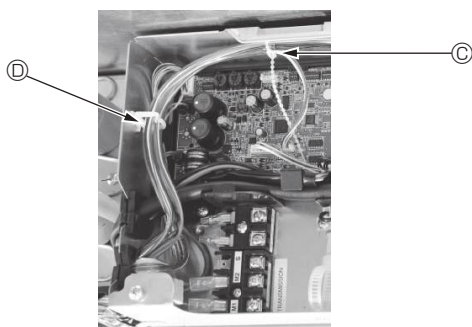

Fig. 5-15
- Place the excess portions of the i-see Sensor and signal receiver junction wires in the electric component box in the wire clip as shown in the diagram, and secure the wires together with the fastener. (Fig. 5-15)